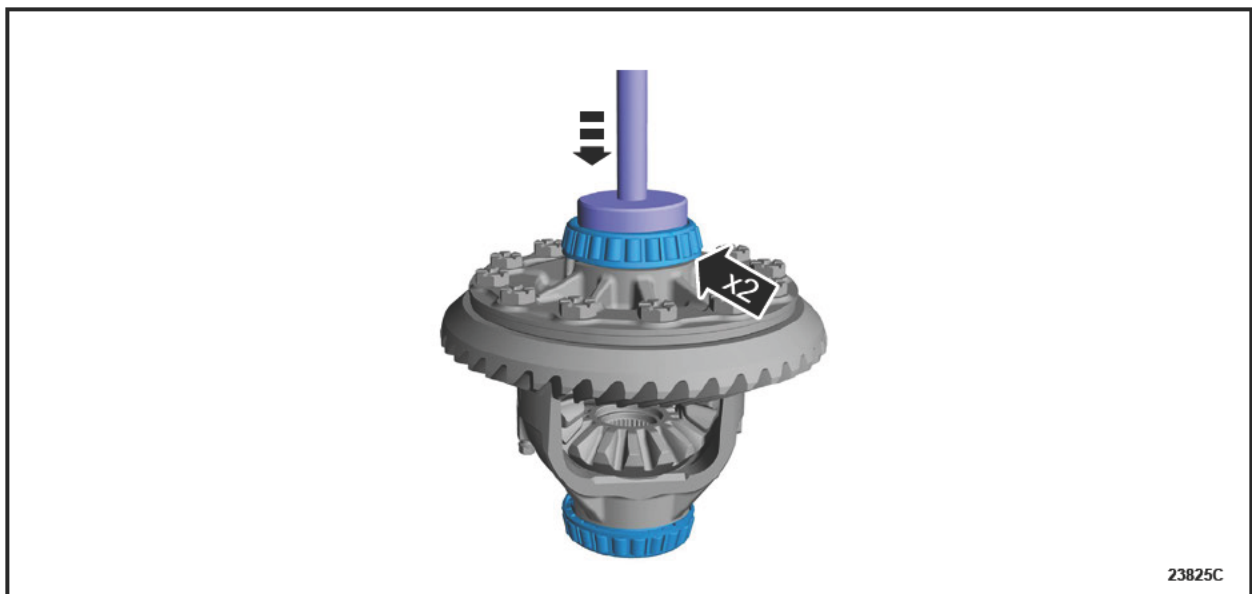

FIGURE 4
10. Install the new differential bearings. See Figure 4.